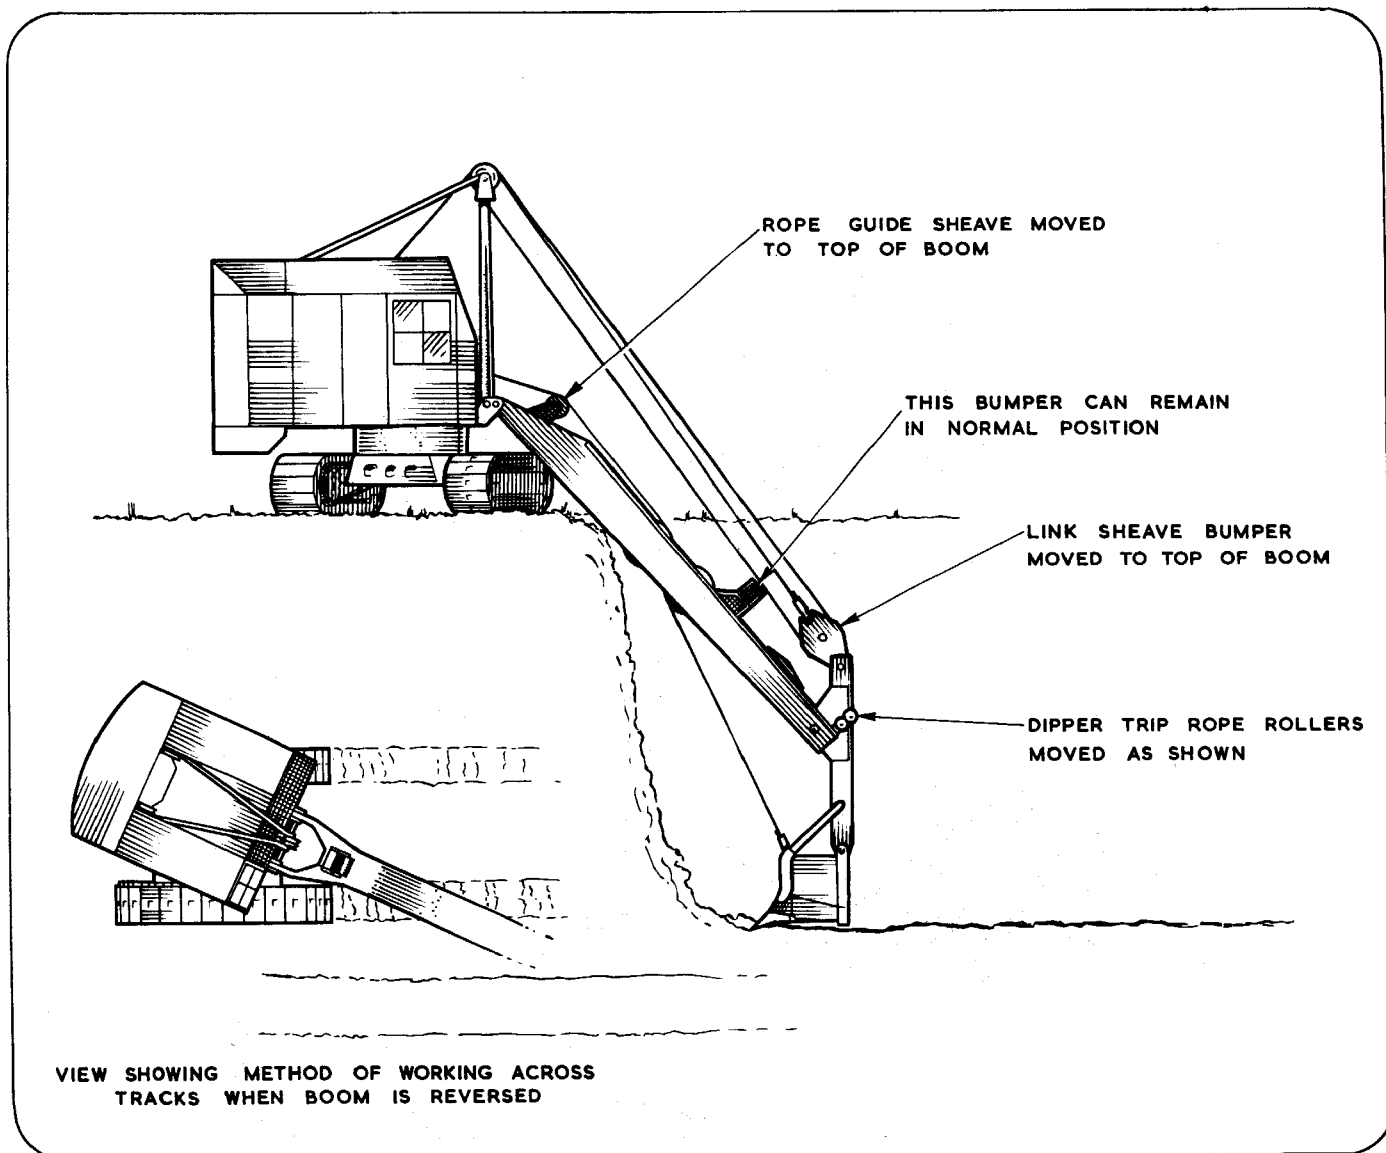

Fig. 20. Reversing the Boom (Applicable to Straight-Boom Dragshovels only).
14. When digging a trench in excess of 11ft. deep in the above manner with a straight boom dragshovel, the boom can be reversed, so that the belly of it is upwards, thereby reducing the risk of hitting the track belt. (See Fig. 20). Greater depths with less danger can be accomplished with the cambered boom.